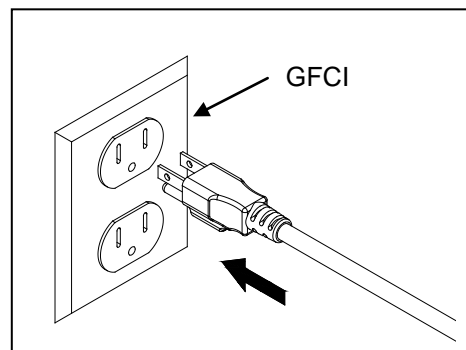

Fig. 5
5. Plug the PCUV9 into a properly grounded electrical outlet. Fig. 5